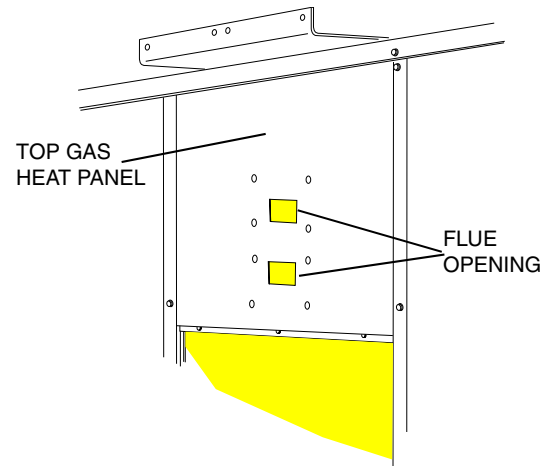

FIGURE 8 : INSTALLED TOP GAS HEAT PANEL
5. Install the top gas heat panel, (Item 1), provided with the Flue Exhaust Kit. See Figure 8. Re-install all panel screws originally provided.